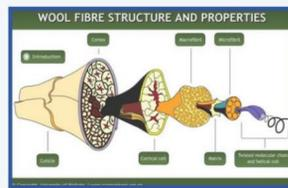

Figure 4. Wool Fibre Structure
- As seen in Figure 4, wool is composed from crimping and layering of many different components. This makes wool a very porous material, well suited for absorbing sound (2018, *Wool*).